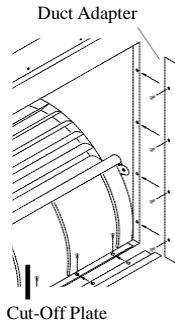

Fig. 1
- **Install Duct Adapters.** If desired, a 4 piece duct adapter is available as an optional accessory. Call 1-800-854-3267 to obtain these from the factory. Align the holes in the duct adapter to the holes in the blower opening and attach using the provided screws (see Fig. 1). Repeat for all four sides. Note: All 4 pieces are identical except for models 7500SD which has an offset piece which attaches to the bottom of the outlet. To install this offset piece, remove the screws holding the cut-off plate and slide the offset duct adapter between the blower opening and the cut-off plate. You may need to loosen other screws to do this. Line up the holes and secure with the screws previously removed.